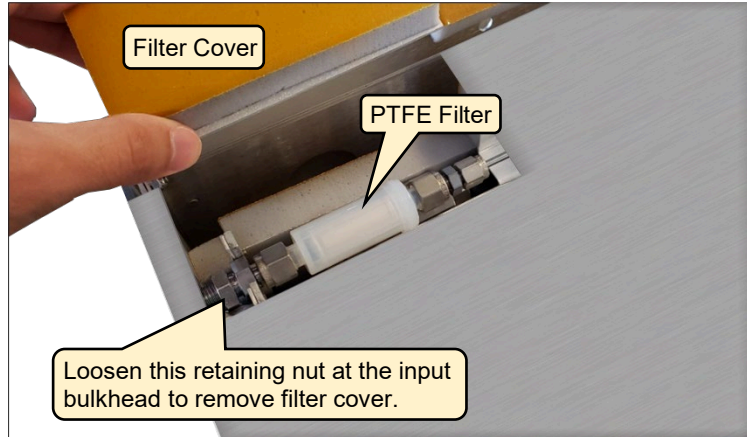

Figure 15: Foam Filter Cover Removal
4. Using a 9/16" wrench and pliers and the technique shown in Figure 15, tighten the two nuts.